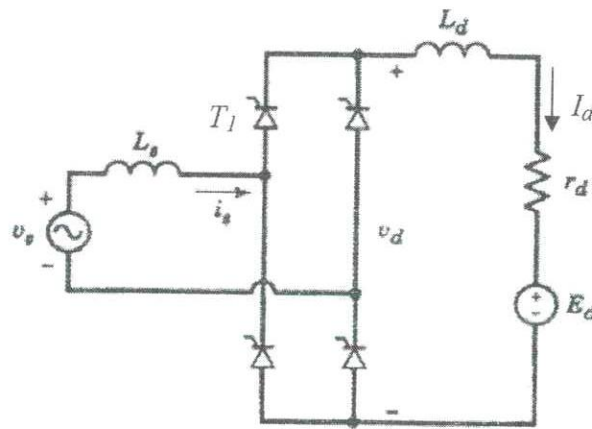

Figure Q2: Single-phase thyristor converter with a dc motor load
- b) The thyristor converter shown in Figure Q2 is connected to a single-phase 230 V, 50 Hz supply. The dc side of the converter is connected to an armature of a separately excited dc motor. The armature resistance is $r_d = 0.5 \Omega$. Assume that the L_d is large enough to have a constant dc current at the dc side. Also, assume that the $L_s = 0$ and the thyristors in the circuit have ideal characteristics.